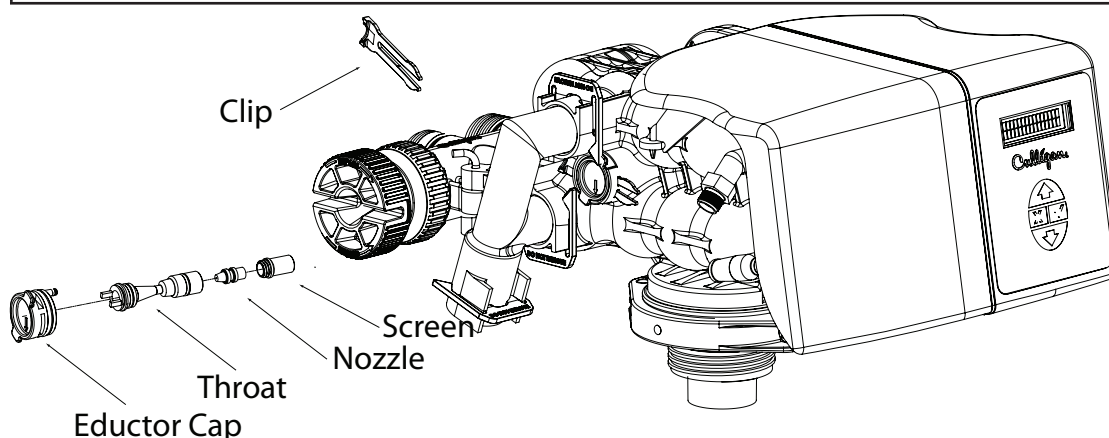
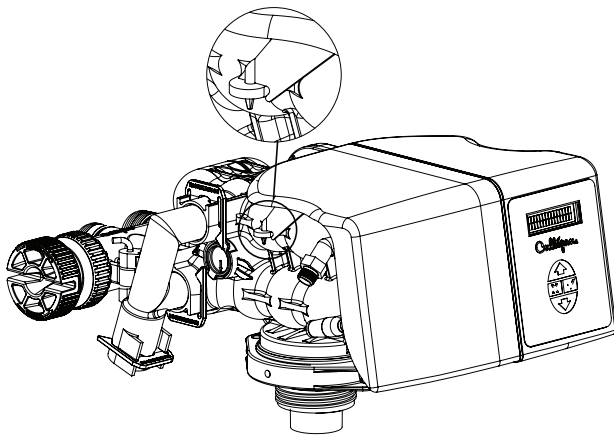
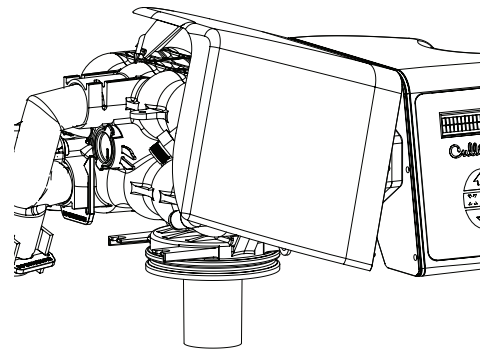
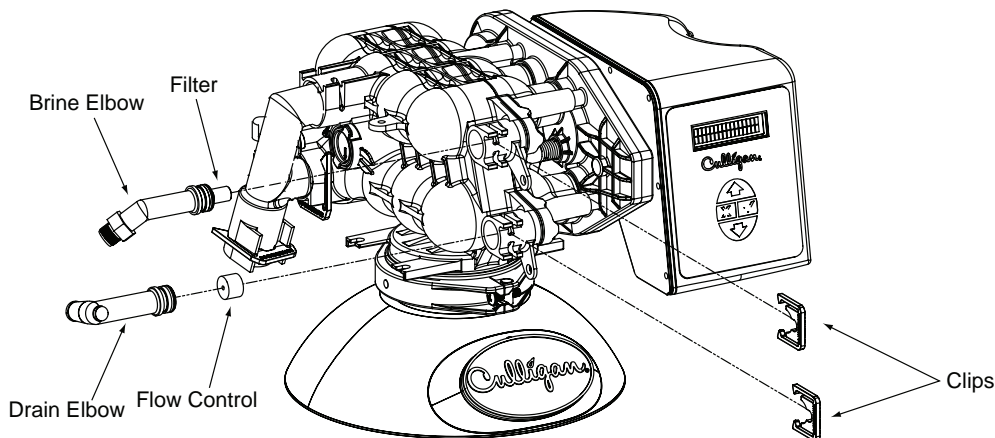

Figure 5. Removing the eductor nozzle and throat.
Figure 7. HE softener cover fastener clip.
Figure 8. Removing the HE softener cover.
Figure 9. Removing the drain elbow and brine elbow.
Refer to Figure 5 through Figure 9 and instructions below for changing the backwash flow control, eductor nozzle, and eductor throat.
Refer to Figure 5 and the instructions below when changing the eductor nozzle and throat.
Refer to Figure 7 through Figure 9, Table 2, and instructions below to replace the backwash flow control.
1. Remove the cover by releasing the cover fastener from the control valve. See Figure 7 and Figure 8.
2. Remove the drain clip and pull the drain elbow straight off. See Figure 9.